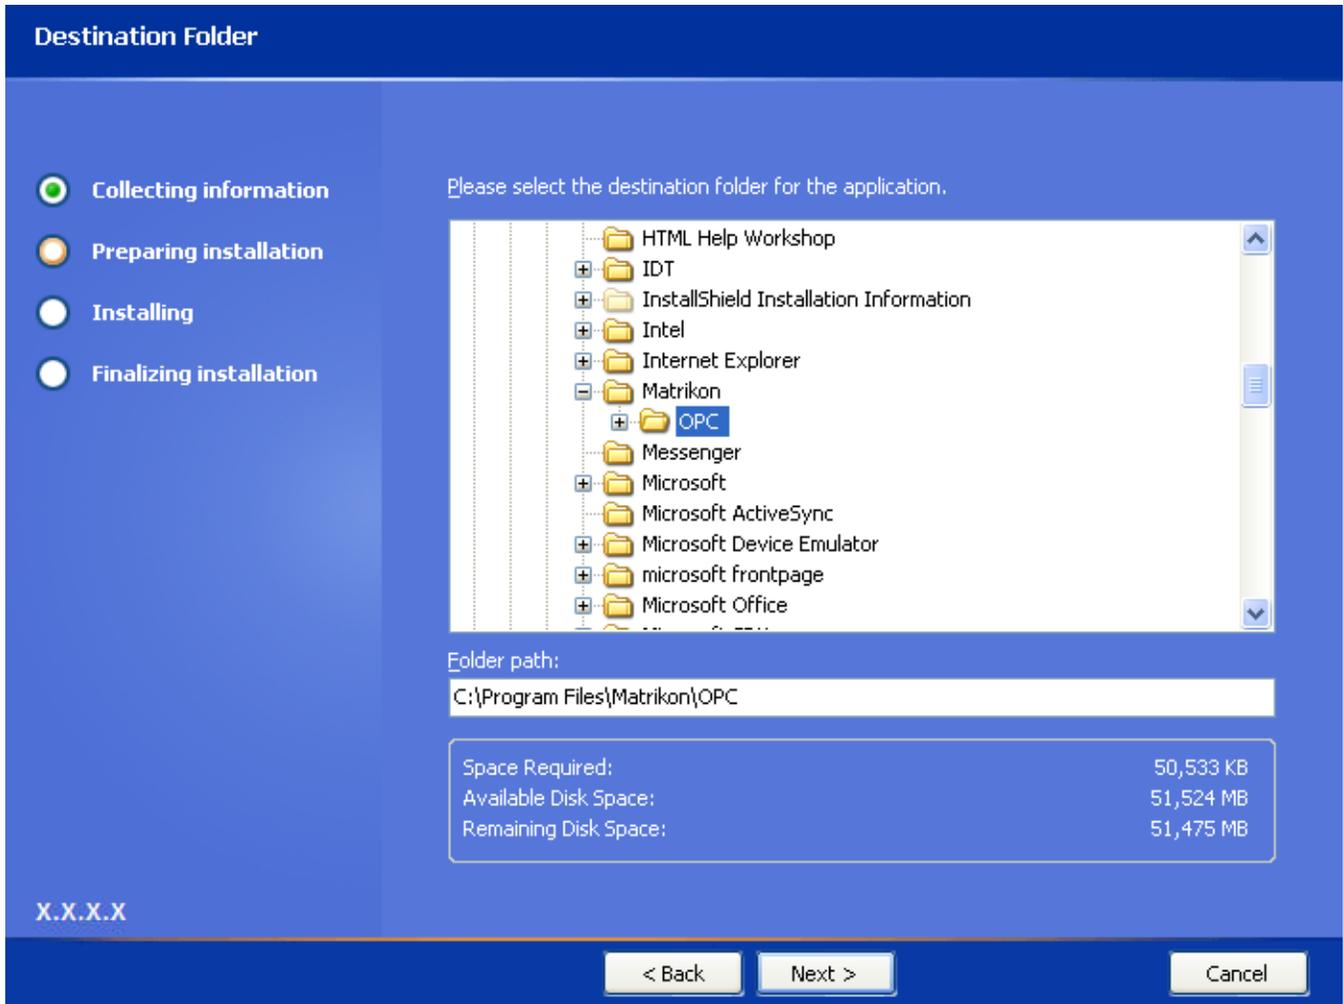

Figure 4 - Destination Folder Screen
7. Click on the **Next** button. The **Destination Folder** screen (Figure 4) appears.